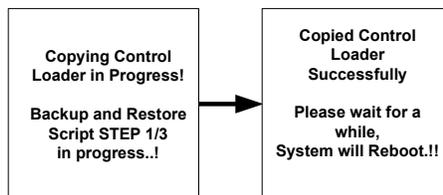

Figure 1-3 Control boot loader files copied screen
9. If inverter has old control boot loader, new control boot loader files will be upgraded and the LCD should display message as shown in Figure 1-3 on page 1–5.